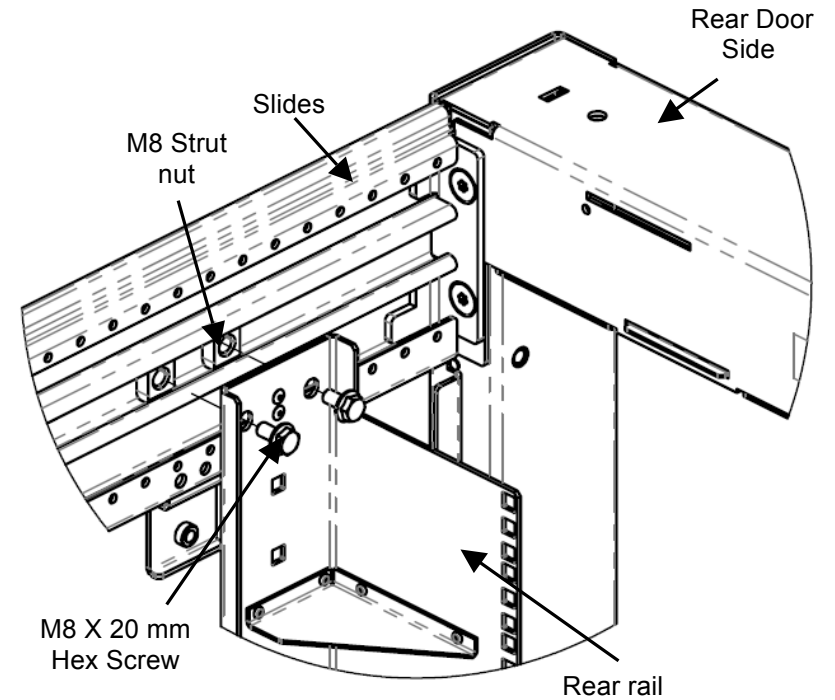

Fig. 8
4. Repeat above steps for other Equipment rail. The slides are marked to help vertically align the rails (Fig. 8).